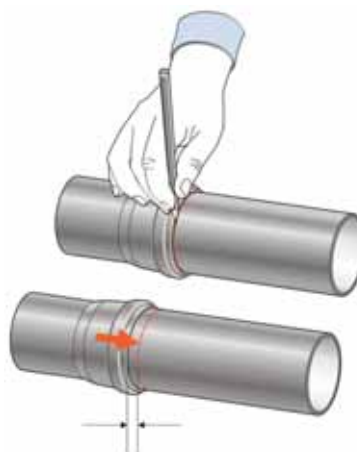

Fig. 3
- 4) Insert the pipe up to the abutment of the socket; then slide it out 10 mm (Fig.3).